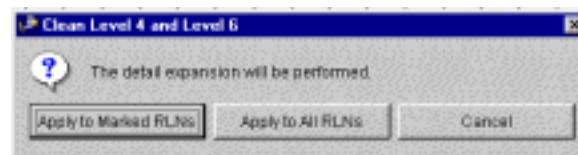

Figure 5.192 Clean Level 4 and Level 6 Window
1. On the Reference menu, click LIN List. The ELIST: LIN List window opens (Figure 5.192).
4. On the Detail Expansion menu, click the Rollup Level 4 and Level 6 Detail command. The Clean Level 4 and Level 6 window opens (Figure 5.192).